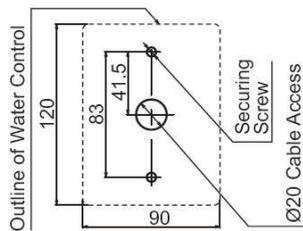

Fig. 1
2. Drill 3 holes in the wall (Fig.1), one for the cable and two for the securing screws. Fit wall plugs if needed and ensure controller is level.
4. Check gas type dip switches no.1 and no.2 of SW2 are in the correct position for the type of gas used. See Fig.1